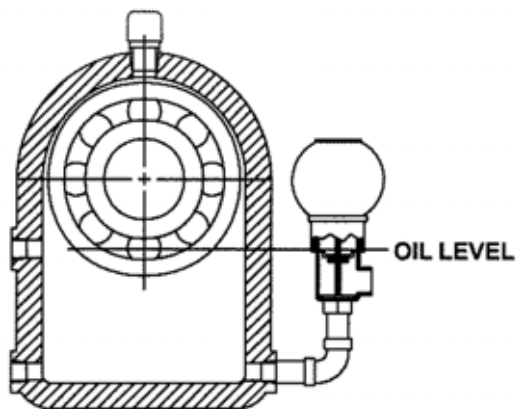

Fig. 9
- On those PACO Type LF Centrifugal End Suction pumps ordered with oil lubricated bearings, Fig. 9. A regular oil maintenance program must be enforced. Pumps with oil lubricated bearings are fitted with a transparent reservoir (constant level oiler) that maintains oil level about the centerline of the bearing. When necessary, the oil supply in the reservoir of the constant level oiler must be renewed.